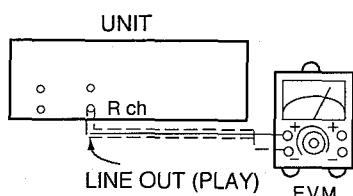

Fig. 1
(Fig. 1) Short with a shorting clip
1. Connect the measuring instrument as shown in Fig. 1.